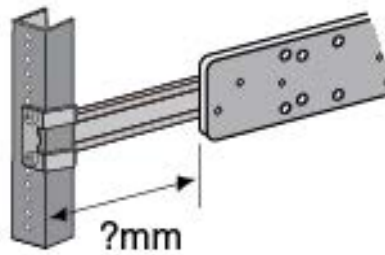

Figure 109. Measuring for the Extension Brackets
3. Measure the distance from the front of the equipment rack to the front of the inner rail. This will be the approximate length of the extension brackets. Refer to Figure 109.